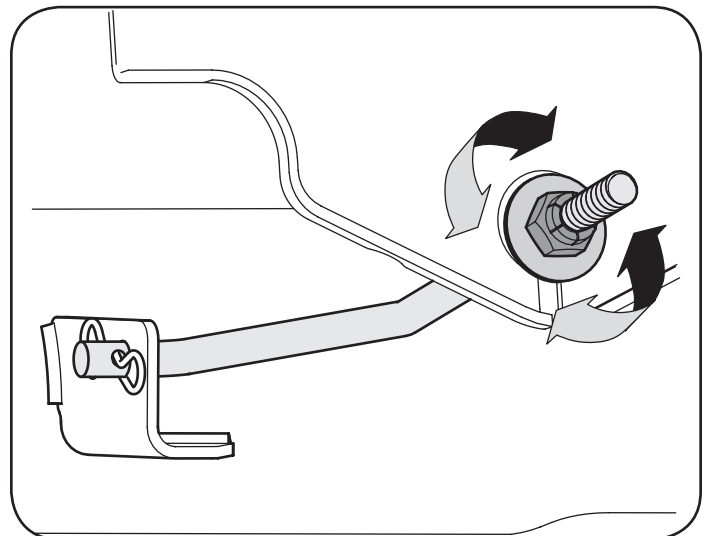

Figure 21
3. Locate the flange lock nut on the front side of the stabilizer bracket. See Figure 21.